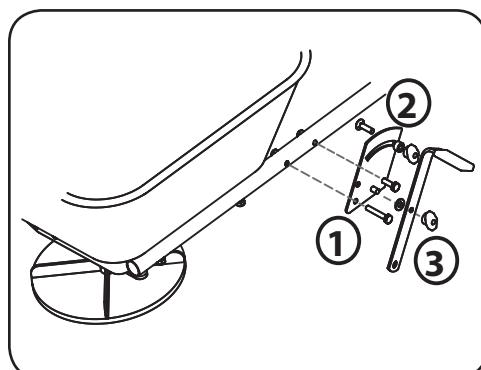

Figure 1-9
7. Use two M6 x 40 bolts and locknuts to attach the control plate to the right side of the frame. See 1 in Figure 1-9.
8. Insert carriage bolt through the slot in the control plate and secure with a plastic spacer and wingnut to create an adjustable stop for the control handle. See 2 in Figure 1-9.
9. Mount the control handle to the control plate using a washer (between the control handle and control plate) and a wingnut. See 3 in Figure 1-9.
- b. Loosen, position and retighten the wingnut on your adjustable stop so that the control handle does not move out of position. See 2 in Figure 1-9.